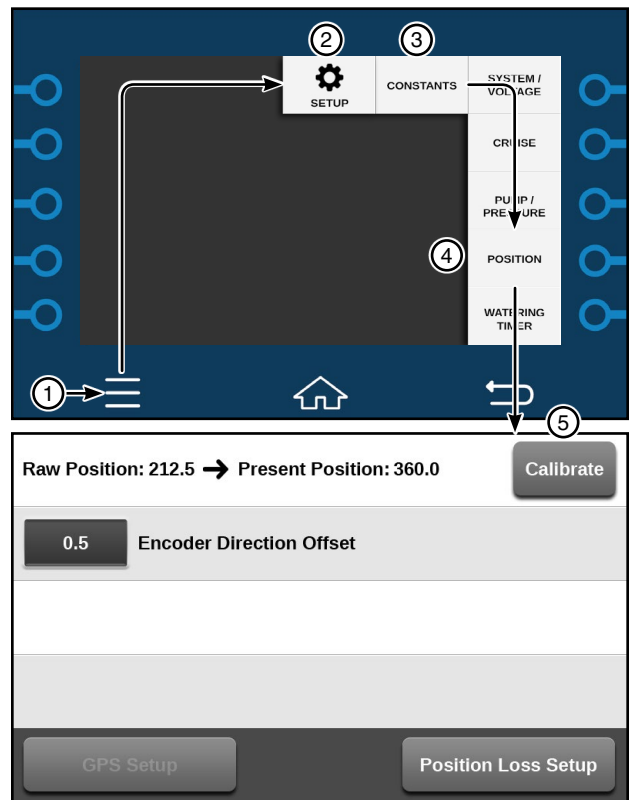

Figure 41-1 1. Menu 3. Constants
- (d) Push the **Calibrate** button and enter the pivot position in degrees on the numeric keypad. See Figure 41-1.